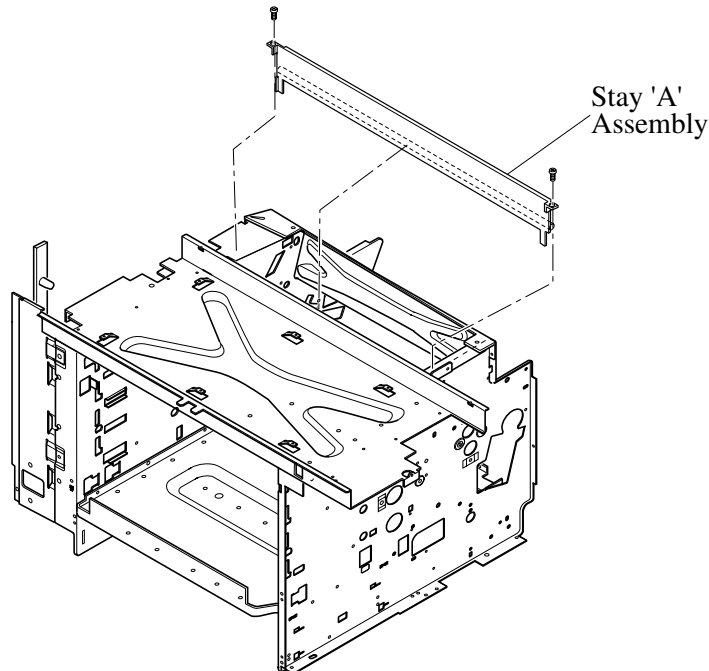

Fig. 7-69
7.6.8.2 Disassembly Procedures (see Fig. 7-69)